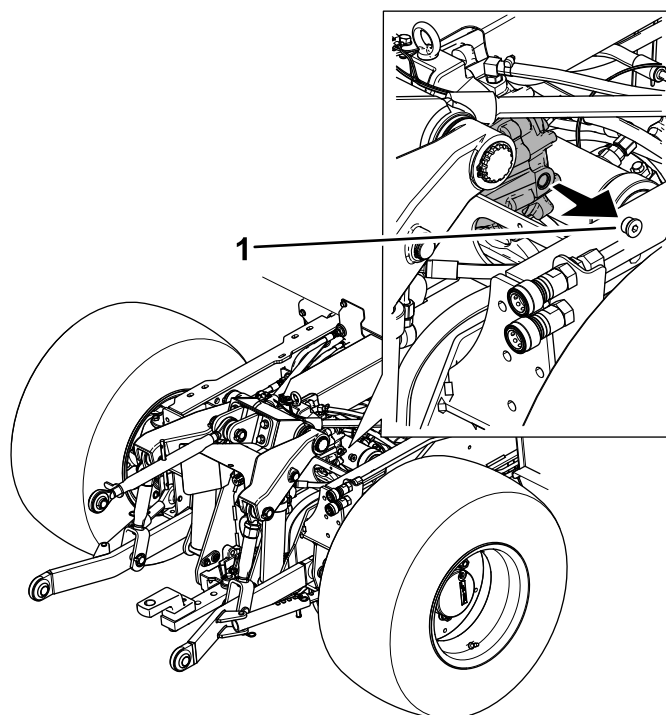

Figure 107
2. Remove the plug from the sight port of the rear PTO gearbox (Figure 107).